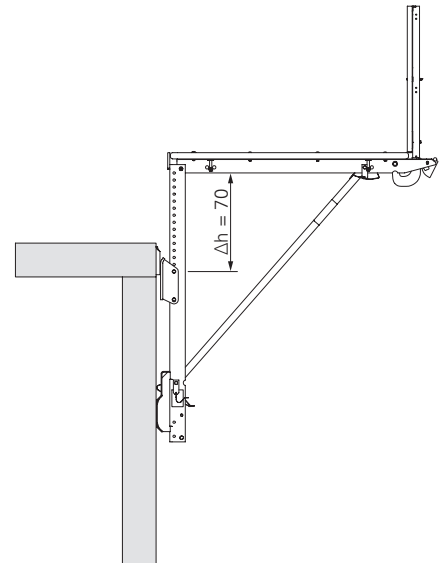

Fig. B1.02
- Load up to Load Class 3: max. height adjustment $\Delta h = 70$ cm. (Fig. B1.02)